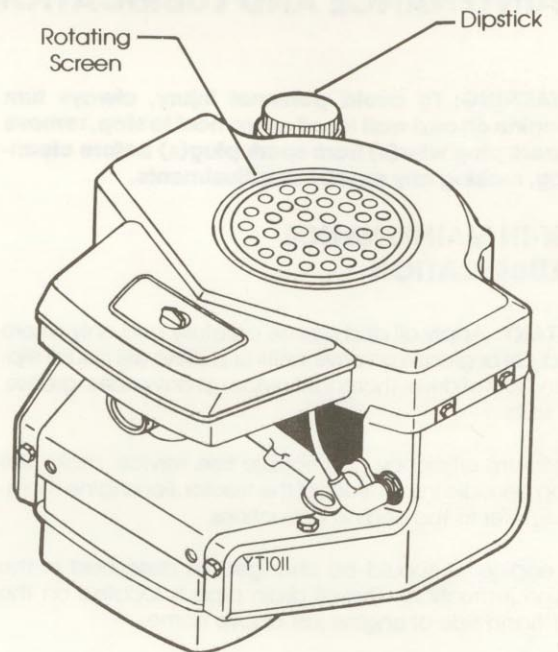

FIG. 4.2A
3. **ROTATING SCREEN:** Inspect rotating screen for chaff or dirt build-up and clean as required (Fig. 4.2A).